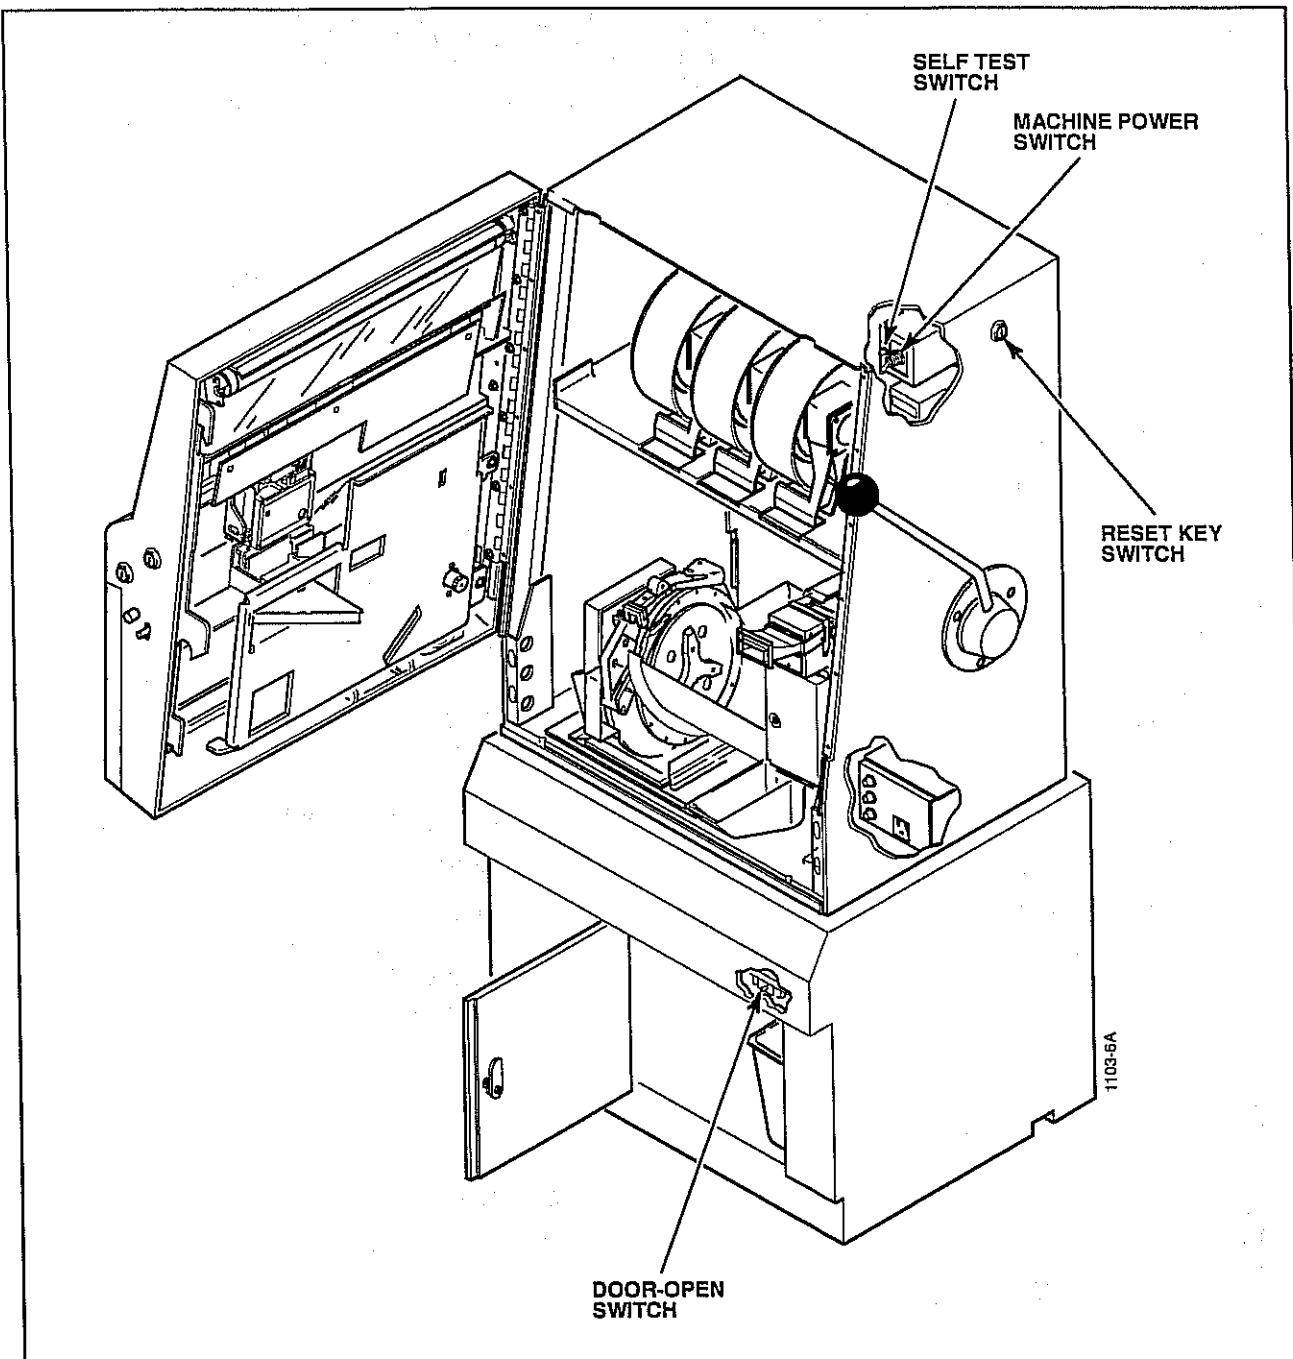

Figure 2-8. Service Control Switches.
4. Verify that the machine power switch is turned off (see Figure 2-8 for power switch location).
Refer to Figure 2-8 for the locations of the service control switches. Table 2-4 briefly describes the functions of each switch.